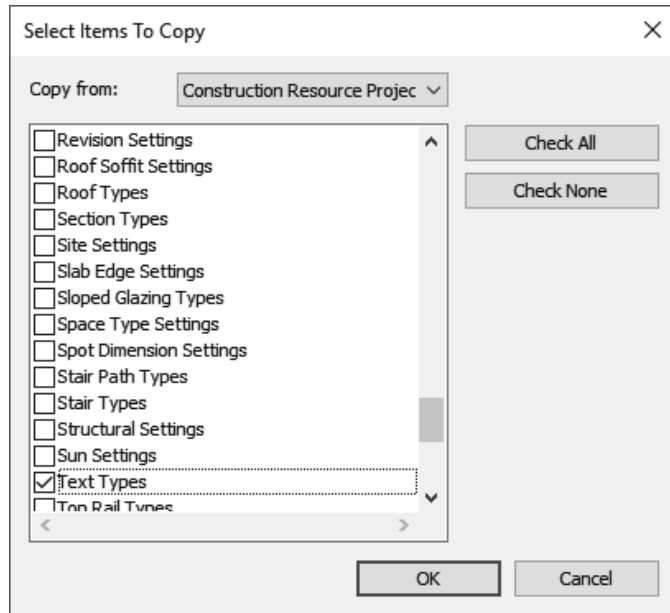

Figure 1–30
5. Click **Check None**, select **Text Types** (as shown in Figure 1–30), and click **OK**.